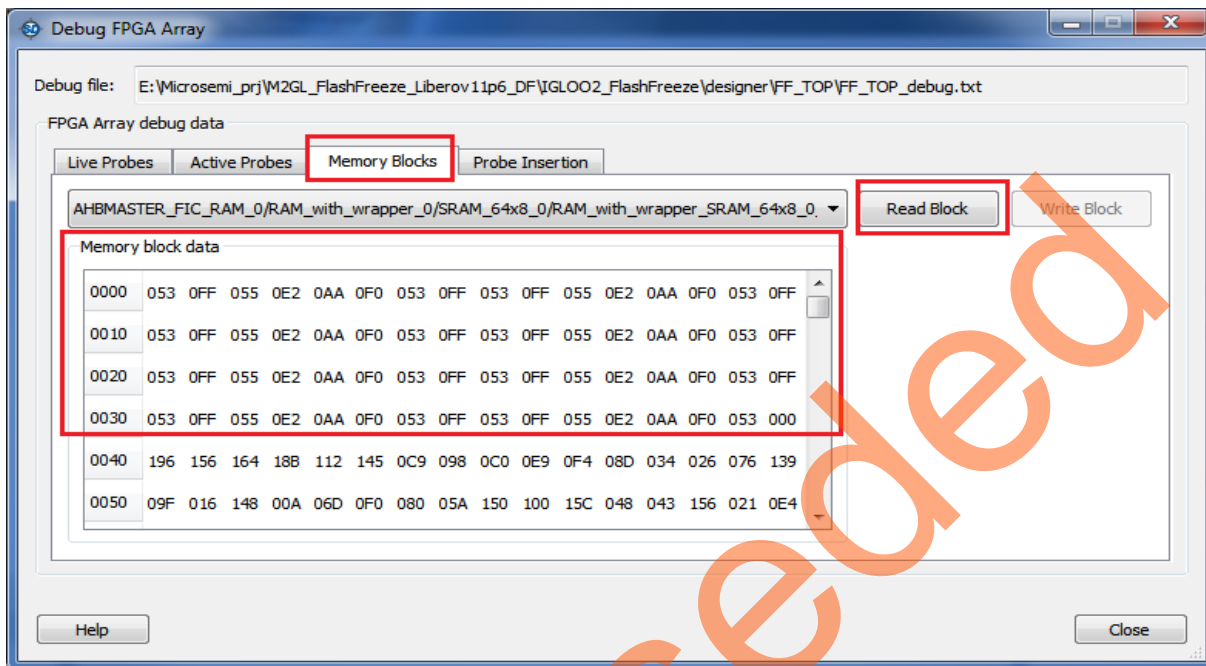

Figure 13 • SRAM Read-back Content before F*F entry
3. Select the **Memory Blocks** tab in the **Debug FPGA Array** window and select **Read Block** as shown in Figure 13. The SmartDebug tool reads the SRAM content from the device and shows it in the **Memory Block Data** section as shown in Figure 13.